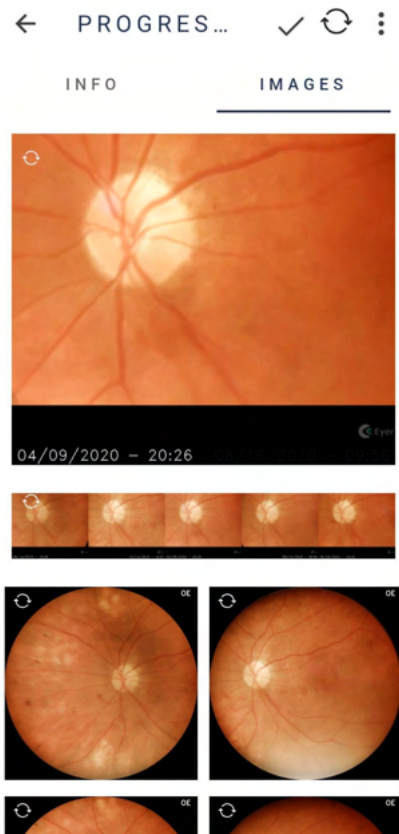
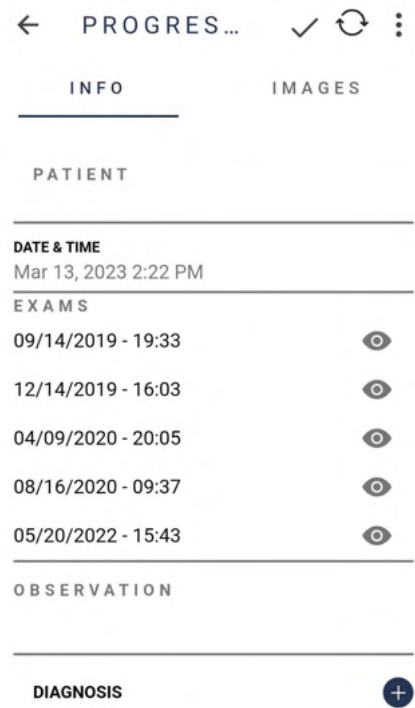
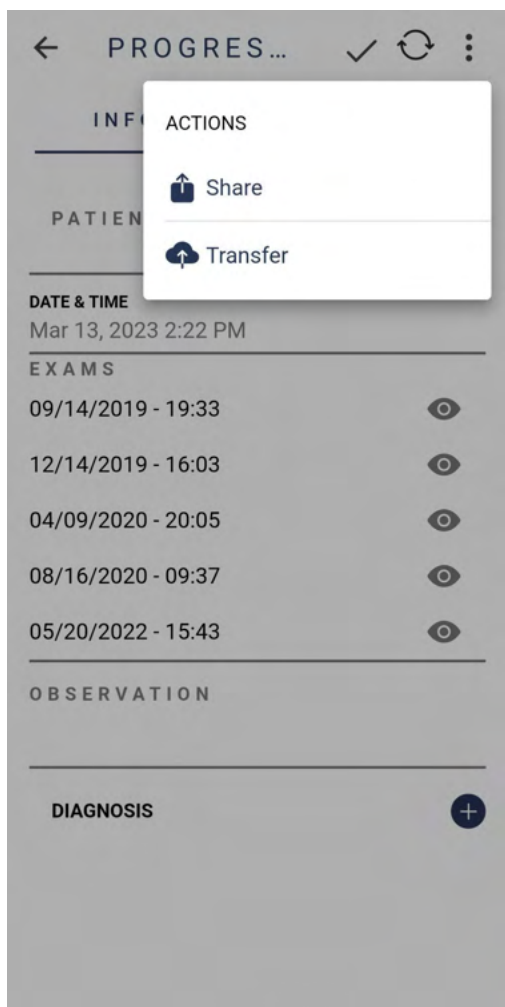

Figure 53: Selection area.
Figure 54: Selection area.
Figure 55: Sharing area.
The image will be generated and, under "Images", there will be a video, a montage of the selected images and the images used, Figure 53. In "Data", Figure 54, it is possible to:
In the exam options, Figure 54 - item 1, it is possible, in Figure 55: